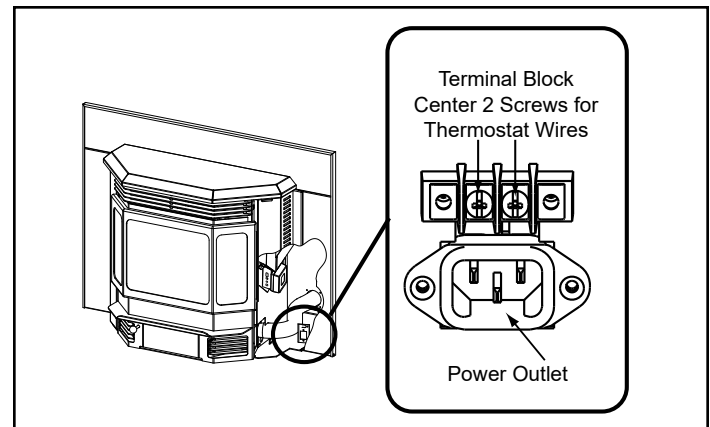

Figure 26.1
2. Connect the thermostat wire to the center two screws of the terminal block on the stove. (Figure 26.1)
There is a 4 screw terminal block located on the back lower left corner of the stove directly above the power cord inlet. The center 2 screws are for the thermostat wires (Figure 26.1).